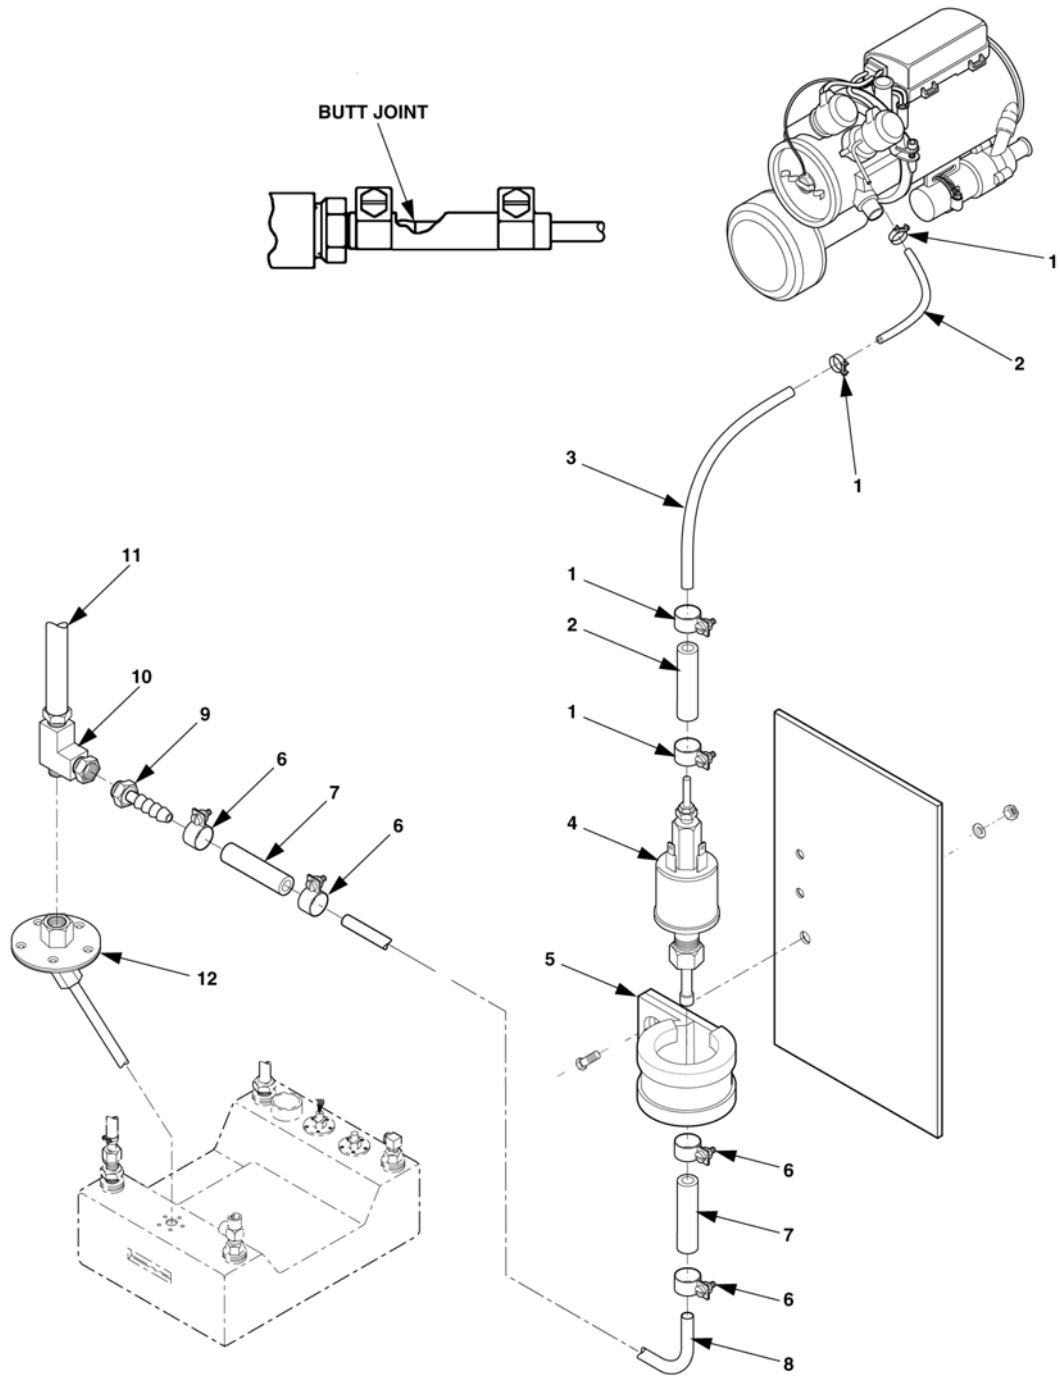

Figure 5-6. Fuel Pump and Lines Assembly
15. Disconnect generator fuel supply line (11), Figure 5-6, from fuel pickup tube assembly (12). Attach tee fitting (10) to fuel pickup tube assembly (12) and attach generator fuel supply line (11) to top of tee fitting (10).
(See Figure 5-6, callouts 2 and 7).
16. Install adapter (9), Figure 5-6, to tee fitting (10) along with butt splice (7), fuel tubing (8), securing with clamps (6).
17. Install butt splice (7) with fuel tubing (8) to inlet of pump (4), securing with clamps (6). Attach butt splice (2) and tubing (3) to outlet from pump (4) and to heater inlet tube, securing with clamps (1).